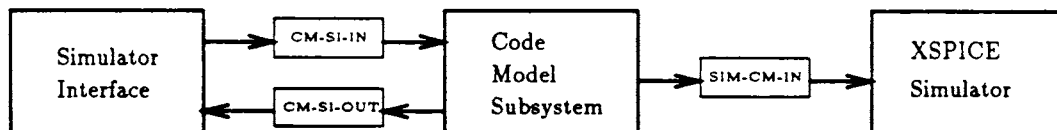

Figure 3.1 Code Model Subsystem External Interfaces.
Figure 3.1 illustrates the interfaces between the Code Model Subsystem and the rest of the ATE SSE system. A user interacts with the Code Model Subsystem through the Simulator Interface (SI) process which provides menus and forms for creating and compiling code models and linking them into a simulator executable.